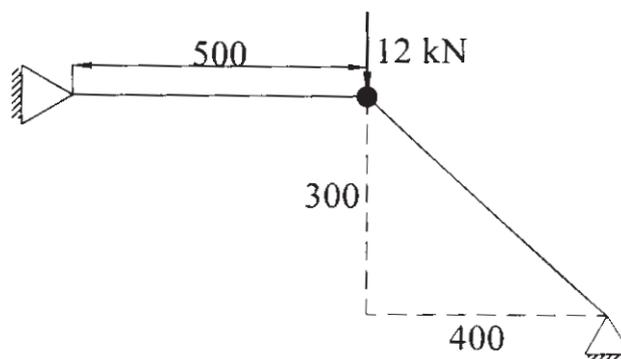

Fig.10.1
- Q10)** a) For the two bar truss as shown in fig. 10.1, determine the displacement and stresses in the bars. Assume $E = 70 \text{ GPa}$ and $A = 200 \text{ mm}^2$ for both members. [8]